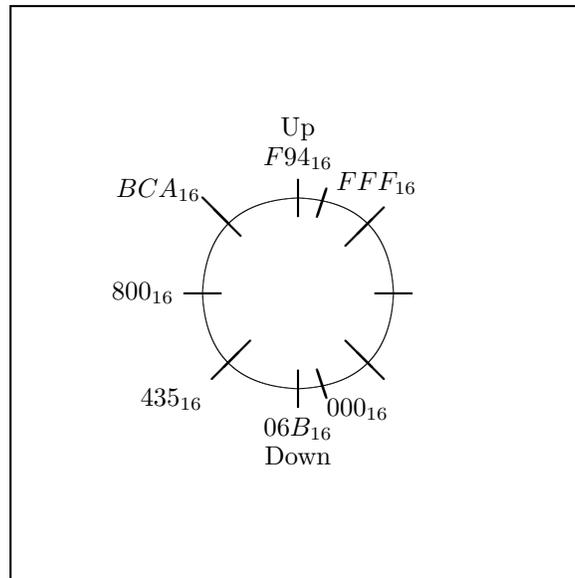

Figure 3: Cohu MPC Tilt Readout Positions, hex values[`intro:cohutiltreadoutshex`]
- 2.1.1. In Figure 3, page 25 are the hexadecimal values that apply as a camera is tilted.
- 2.2.3. Other comments from Figure 3, page 25 apply here too.